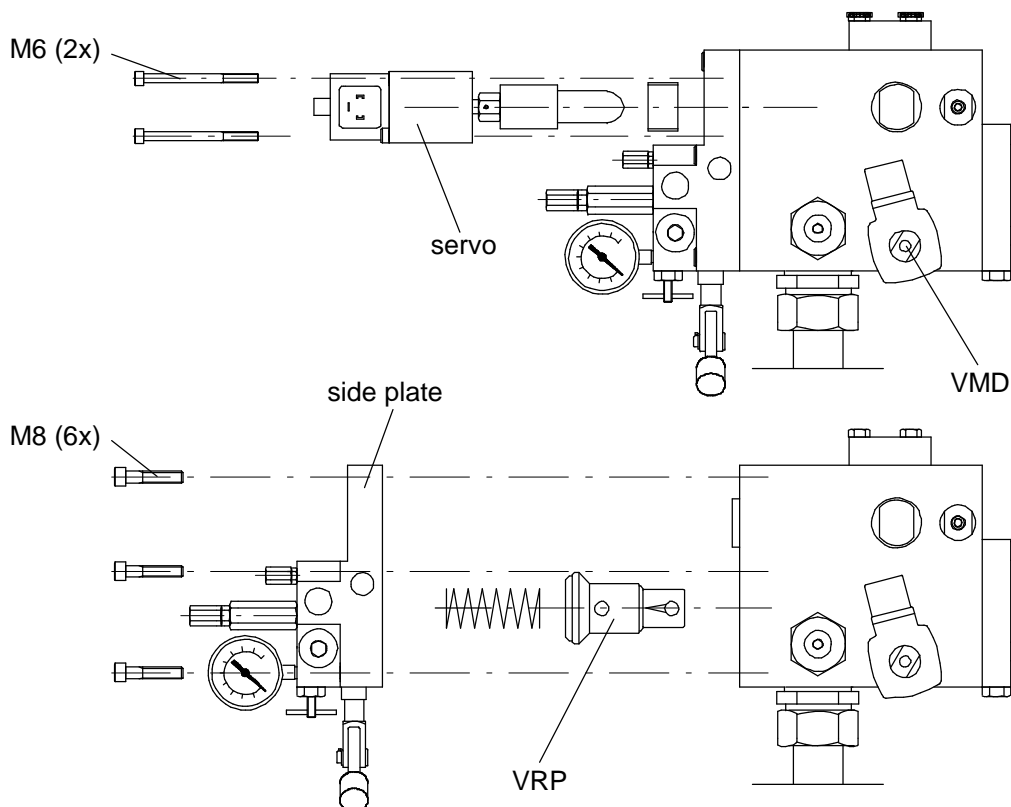

Fig. 10.10 VRP valve and side plate including handpump
3. Remove the side plate and the VRP valve according to Fig. 10.10.